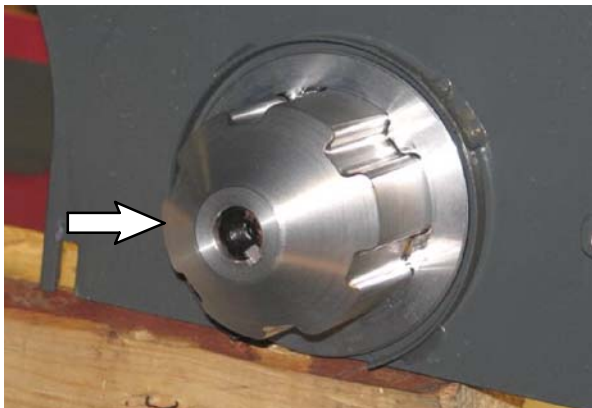

FIG. 3
2. Install the both new brush drive plugs (6) onto the scrub head. Refer to Fig. 3.